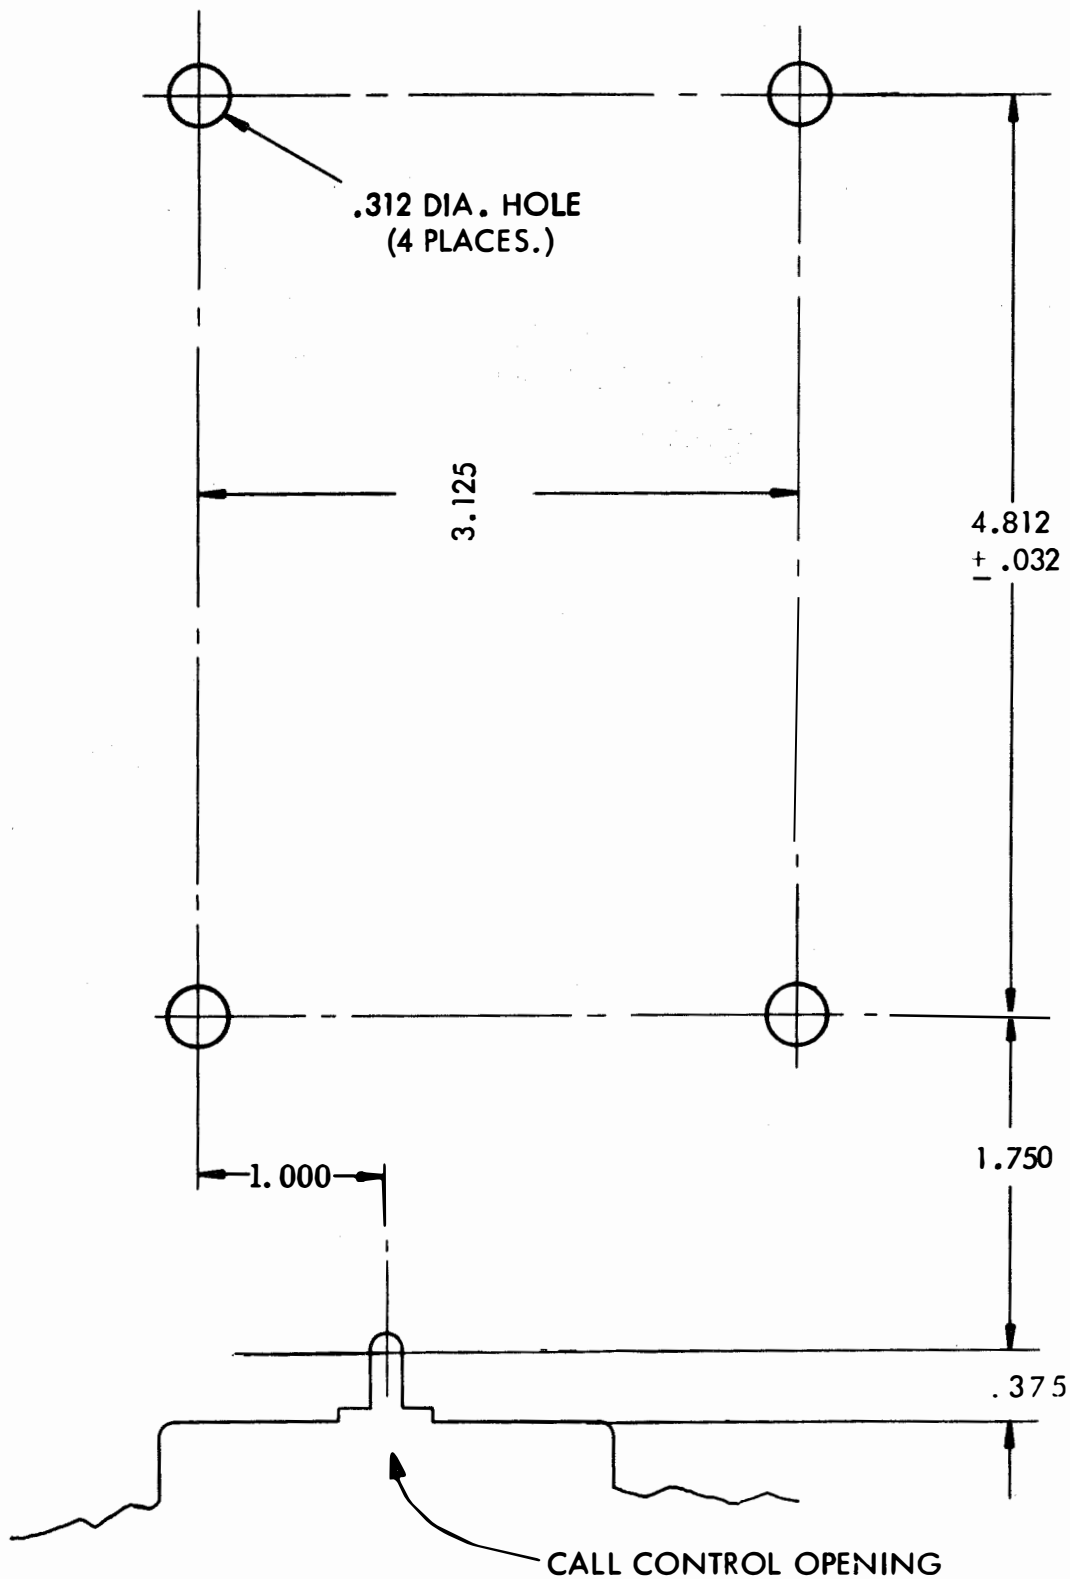

FIGURE 1
2. INSTALLATION (Figures 1 and 2)
a. On early design covers, drill the necessary mounting holes in accordance with Figure 1. This should be done with the cover removed in accordance with standard procedure.